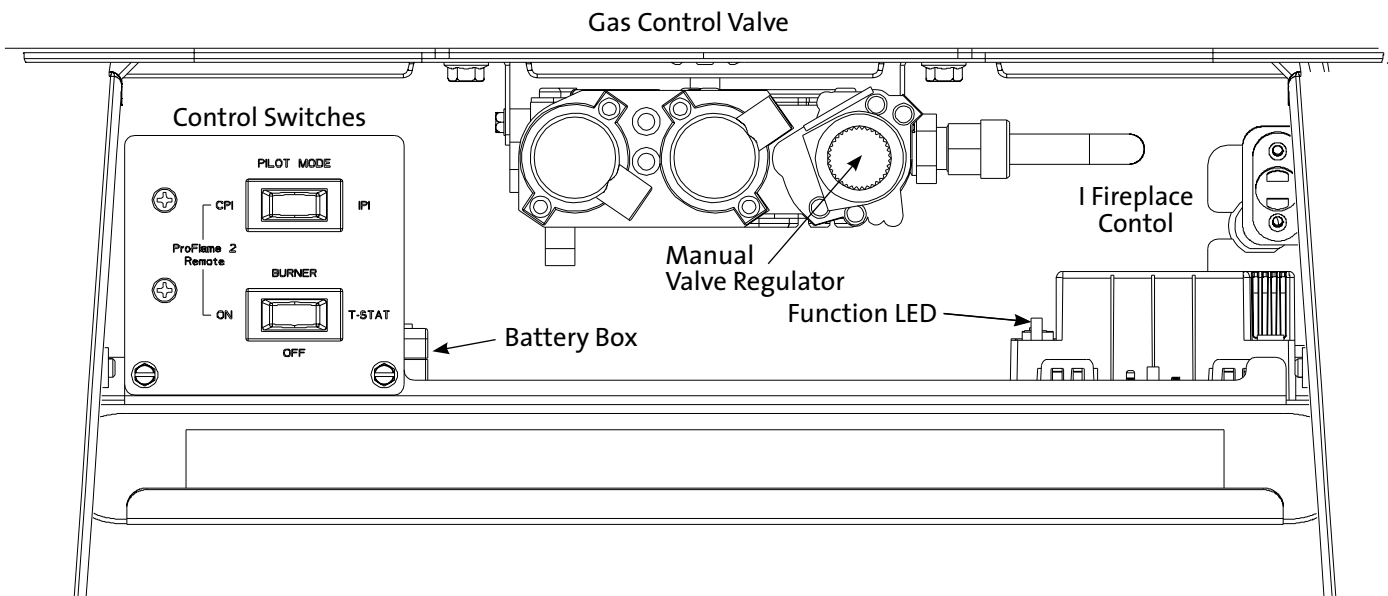

Figure 15.1. GF 305 DV IPI Controls Compartment.
1. Set the Burner switch to OFF. See fig. 15.1.
- **CPI** for continuous pilot operation. **NOTE: The pilot light will burn continuously for up to seven (7) days, after which it will automatically extinguish.** Follow the lighting instructions in this manual and on the stove control panel.